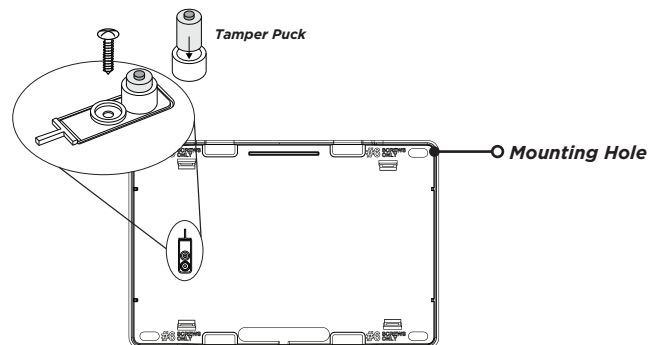

Figure 2: Inside of the 1100XH Housing
2. Use the included #6 screws to secure the 1100XH to the wall. See Figure 2 for mounting hole locations.
3. Use one of the provided screws to anchor the housing in the wall tamper screw hole. See Figure 2 for tamper location.